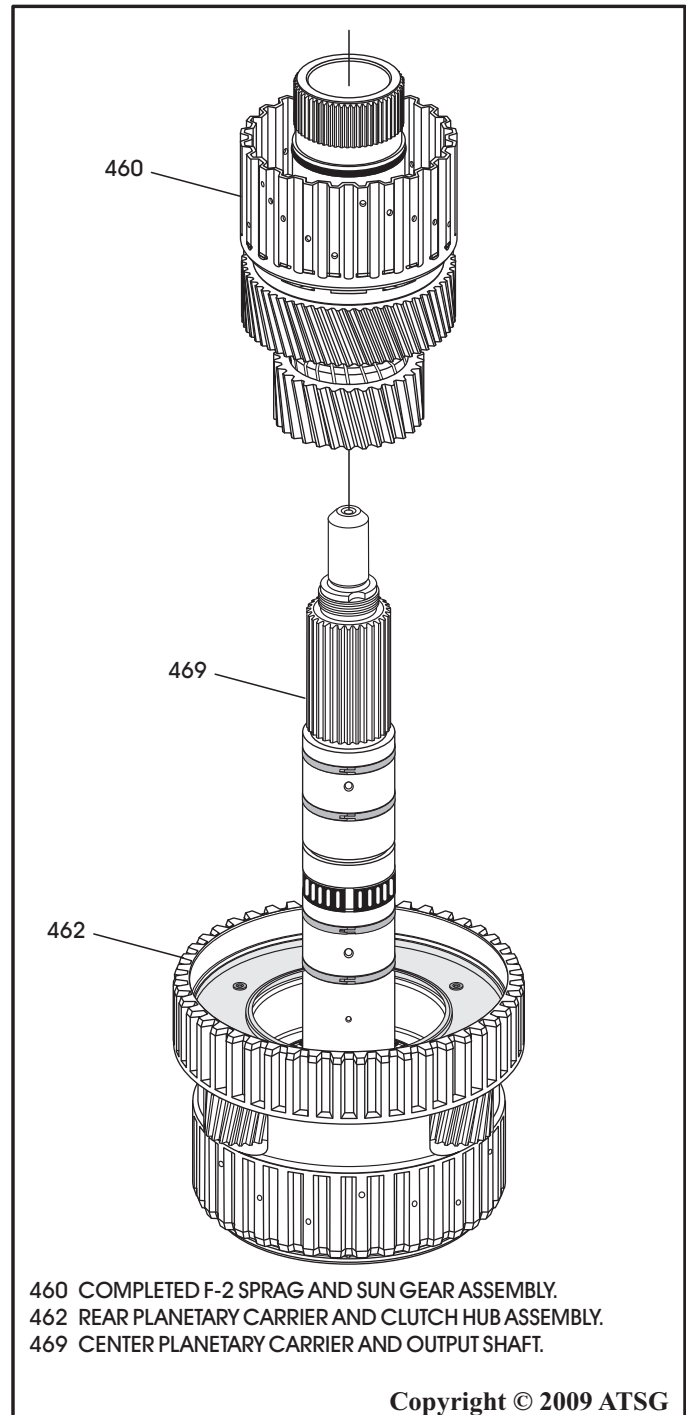

Figure 147
51. Install the completed F-2 sprag and sun gear shaft assembly, as shown in Figure 147.